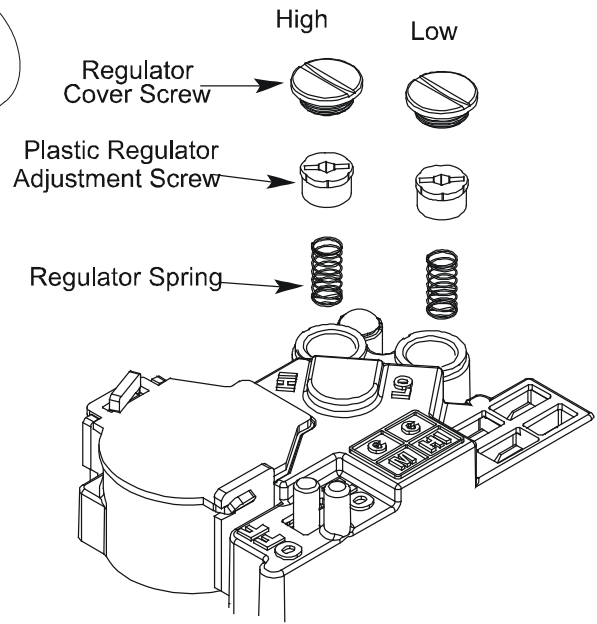
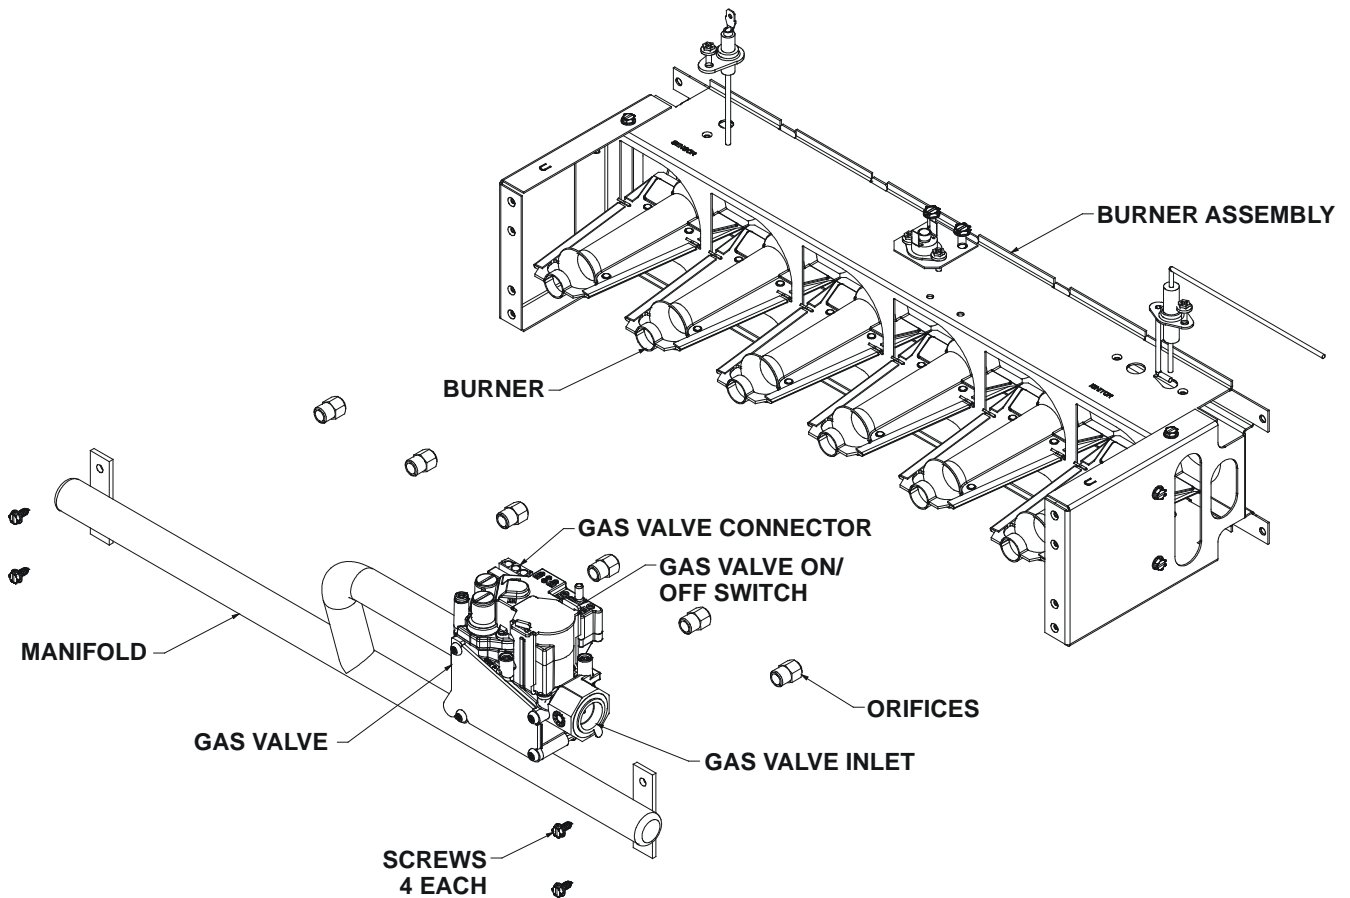

FIG.3 White-Rodgers 36G54 Springs and Regulator Screws
FIG. 2 Burner Orifices Replacement
8. Remove 4 sheet metal screws that fasten the manifold/gas valve assembly to the burner box. See Figure 2.
- Using a 3/32" Allen wrench included in pressure check kit, loosen the inlet pressure tap screw one (1) turn only (DO NOT REMOVE).
11. Remove both regulator cover screws on the gas valve. See Figure 3.